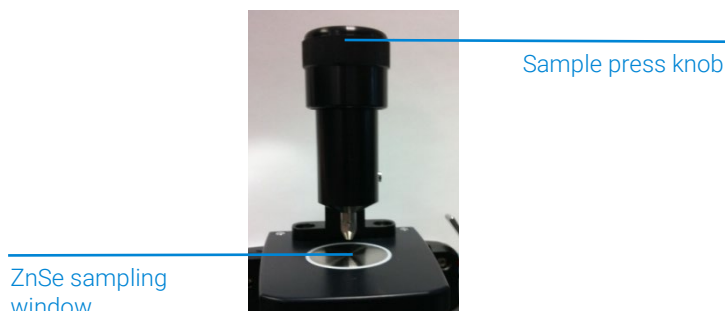

Figure 6. ZnSe ATR accessory sample press in highest position.
In the sample loading and cleaning mode, the sample press should be in the highest position, so the sample press tip is well above the ZnSe sampling window (see Figure 6). It is in this position that the sample mounting area can be easily accessed for loading the sample into place and for cleaning the sampling surfaces before the next sample is analyzed.
- 1 Open the sample press by rotating the top knob counterclockwise until the top of the press travel is reached (see Figure 6).
- 1 Turn the sample press knob in a counterclockwise direction to open the sample press so that the tip is elevated slightly from the ZnSe sampling window (see Figure 6).